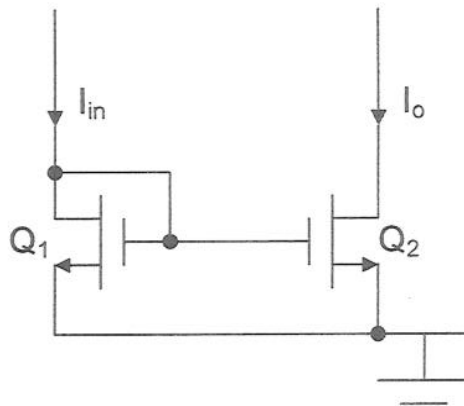

Figure 4.1
4. (a) Give one advantage and one disadvantage of each of the two CMOS current mirror circuits shown in Figures 4.1 and 4.2 [6]